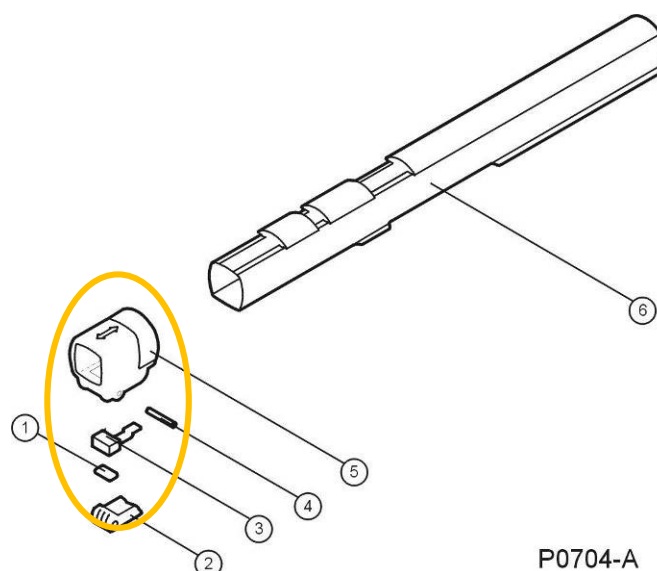

Figure 63: Camlock Upper.
- Using Figure 63 as a guide, use the 3mm hex driver (Allen key) or punch to push out the pin cam lever pivot (Part 4) from the upper camlock (Part 5).